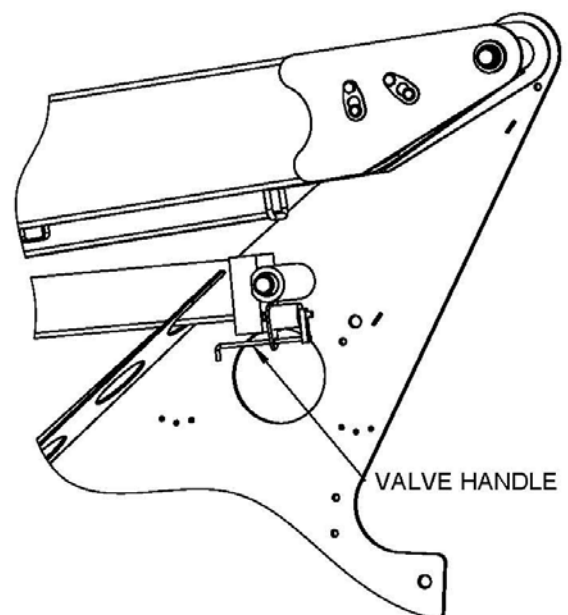

Figure 4-1. Location of Emergency Lowering Valve Handle
- Pull and hold the emergency lowering valve handle on the lift cylinder to relieve all hydraulic pressure to the cylinder. Refer to Figure 4-1.